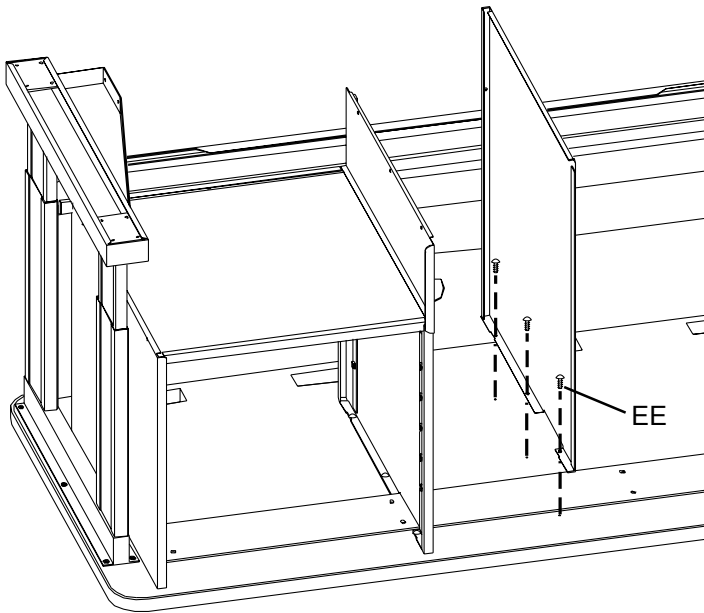

FIGURE 9
LOOSELY attach side panel to UCS925 wood top using screws (EE) as shown in **Figure 9**. Then **LOOSELY** attach side panel to UCS925 modesty panel shelf using screw (EE) and nut (FF) as shown in **Figure 10**. Do not tighten hardware until Step 7 is completed.